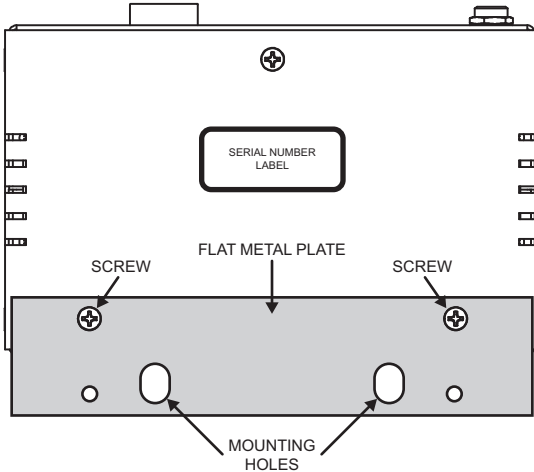

Figure 3 Flat Metal Plate Installation Option
2. Install the **Flat Metal Plate** onto the bottom of the chassis (**Figure 3**) using the screws removed in **Step 1**..